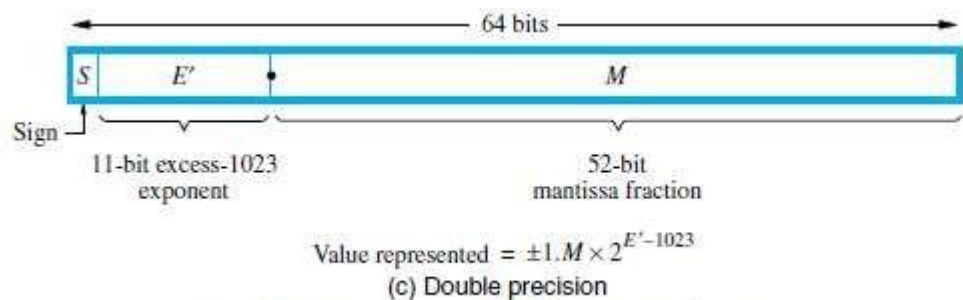

Figure 9.26 IEEE standard floating-point formats.
- In step 1, sign is sent to SWAP network (Figure 9.26).
- In step 4, result of step 3 is normalized. The number of leading zeros in M determines number of bit shifts(X) to be applied to M .